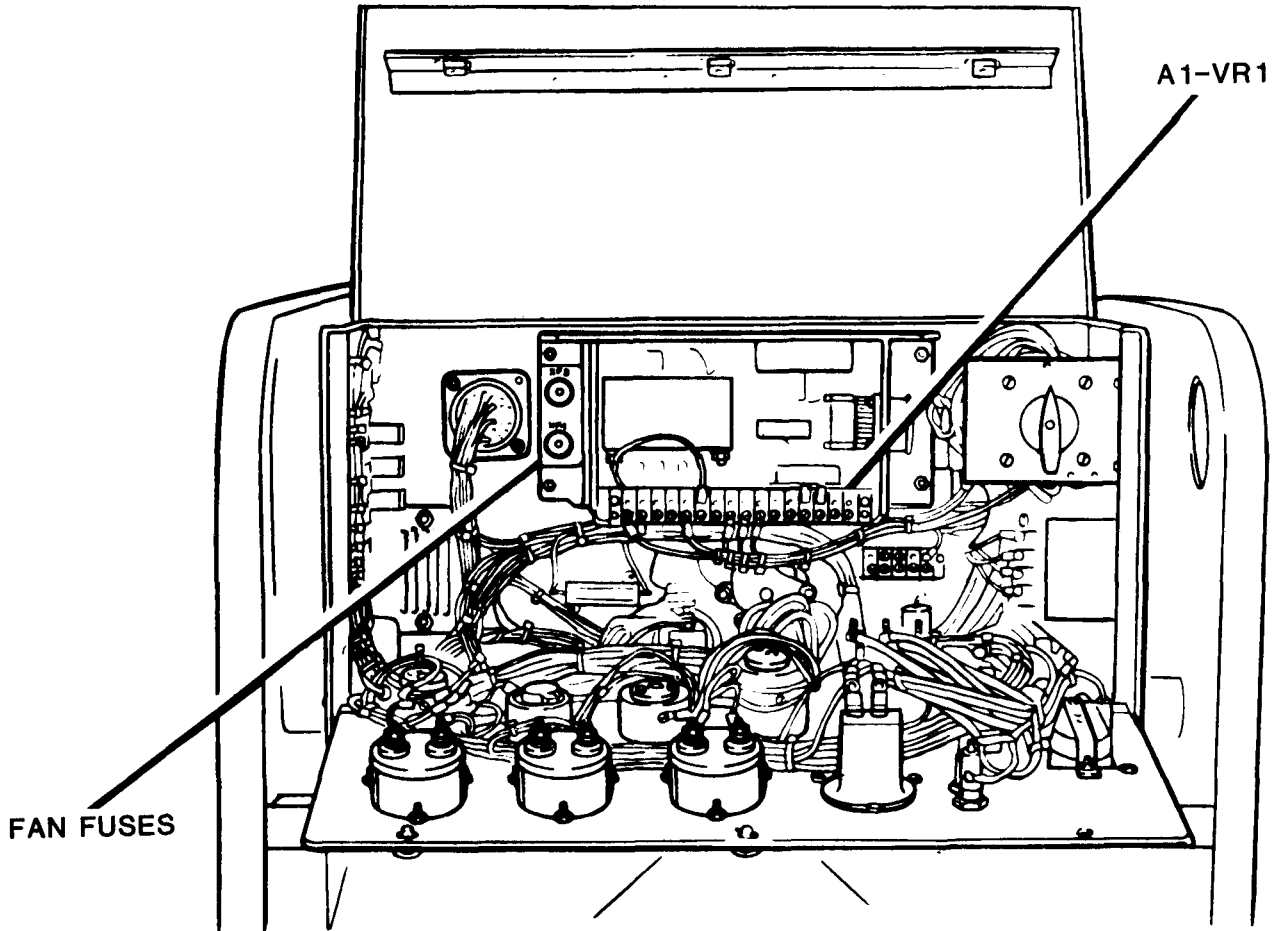

Figure 5-5. Fuse Assembly, Fans.
2. FAN(s) INOPERATIVE (O).
Step 1. Open the generator controls and instrument panel and check the ASK wiring on voltage regulator terminal strap A1-VRI (Figure 5-5).